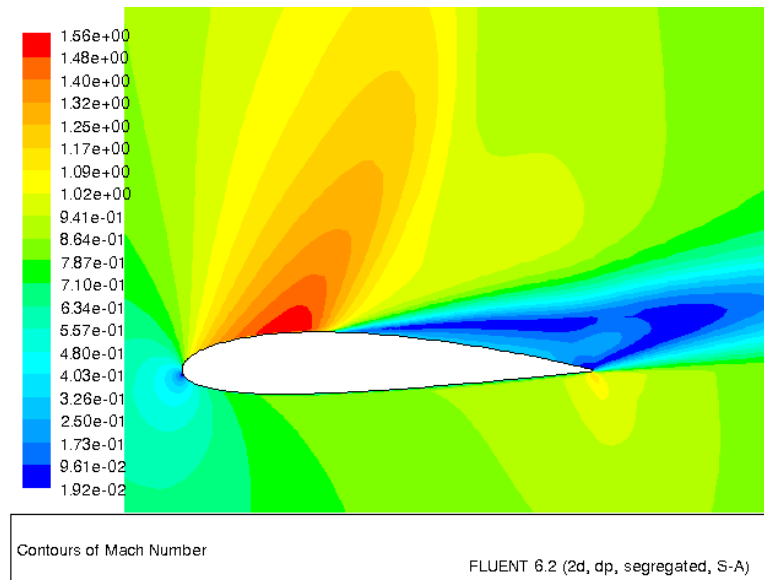

Figure 5.12: Contours of Mach Number
An additional simulation was performed with free stream Mach number of 0.8 at same angle of attack (10). The Mach Number Contour and Velocity Vector for this simulation are shown in Figures 5.12 and 5.13 respectively.